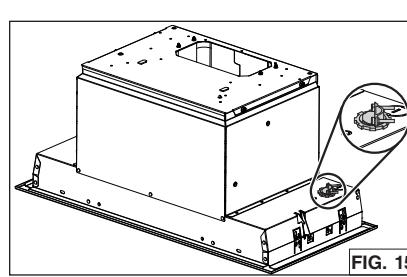

FIG. 15
4. Punch out one of the two knock-out holes. Install an appropriate 7/8" diameter strain relief (not included, grey part in FIG. 15).